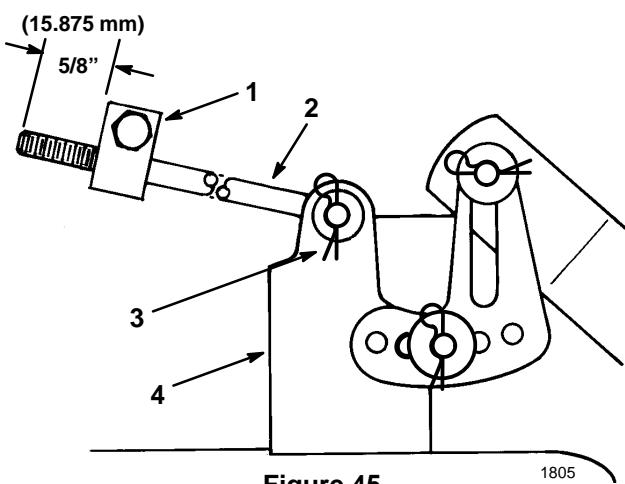

Figure 45
6. Measure the length of the rod extending out the front of the adjusting block on the sides of the chassis (Fig. 45). If the rod length is not $5/8"$ (15.875 mm), remove the hair pin cotter and washer from the end of the rod (Fig. 45), and turn the rod until the $5/8"$ (15.875 mm) dimension is obtained. Then install the end of the rod into the hole in the mower mount and secure in place with washer and hair pin cotter. Repeat this procedure on the opposite side of the mower.